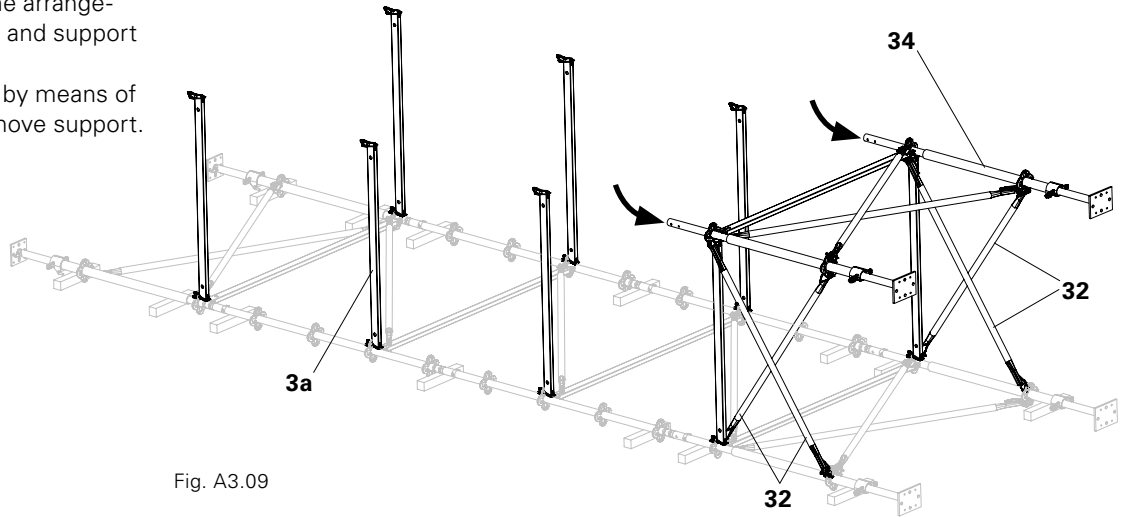

Fig. A3.09
6. Place the prepared Head Element (34) of the second shear frame arrangement on the UH Ledgers and support temporarily.
7. Brace the Head Element by means of Shoring Braces (32). Remove support. (Fig. A3.09)